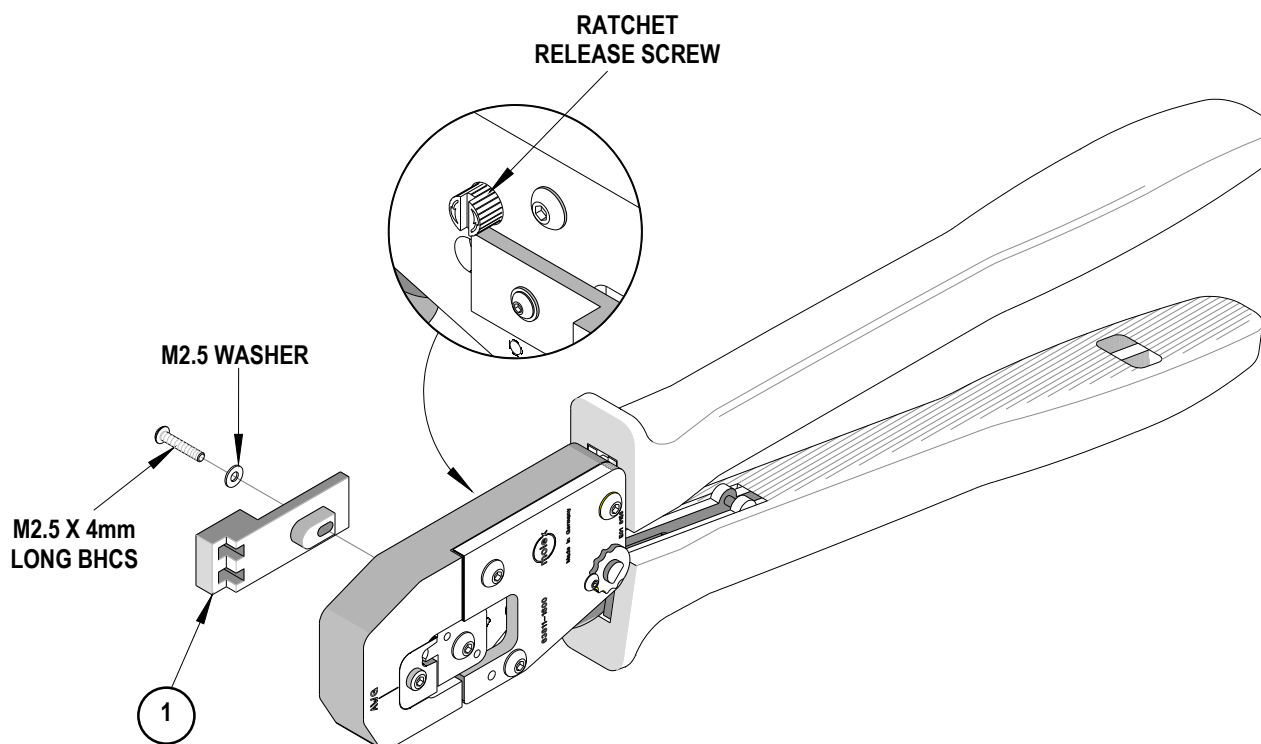

Figure 3
**Miscrimps or Jams (See Figure 3)**
Should this tool ever become stuck or jammed in a partially closed position, **Do Not force the handles open or closed**. The tool will open easily by rotating the slotted screw on the locator (back) side of the hand tool. See Figure 3.